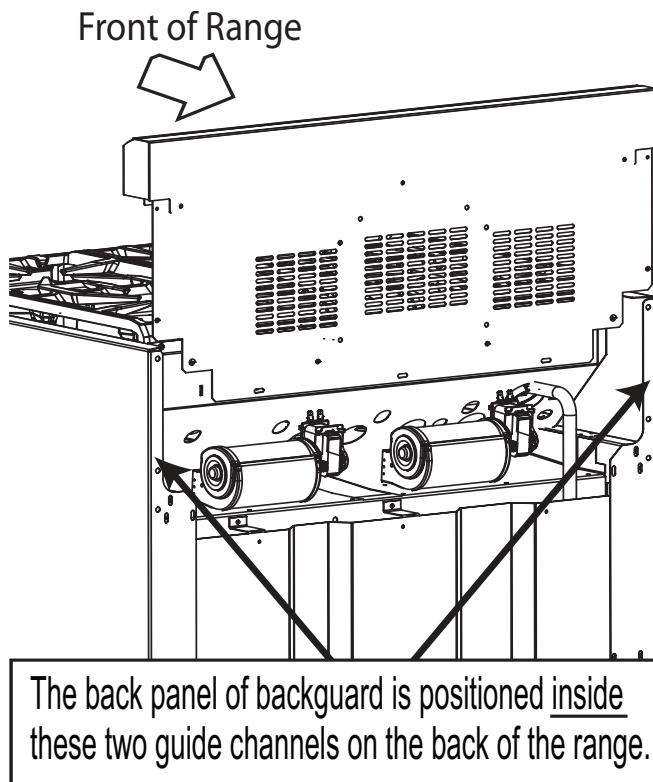

Figure 16: Backguard Positioning
- DO NOT attempt to install a Thermador series backguard, which has air holes in the back panel to supply (only) one cooling fan. [See Figure 16]
- The backguard is inserted inside the guide channels on the back of the range, as shown in Figure 16. (Remove the griddle assembly for sufficient installation clearance on models with griddle.) Using a T-20 size Torx driver, fasten the backguard with four (4) Torx-head screws to the range side panels.
- The Pot-and-Pan Shelf models require pre-assembly of the top panel to the shell using nine (9) of the enclosed Torx-head screws. For sufficient load strength, YOU MUST attach two (2) screws through the back corners of the top down into the shell.
- To secure the front of the back guard, install three (3) of the Torx head screws through the lower front panel of the backguard, into the flange at the back of the range's cooktop.